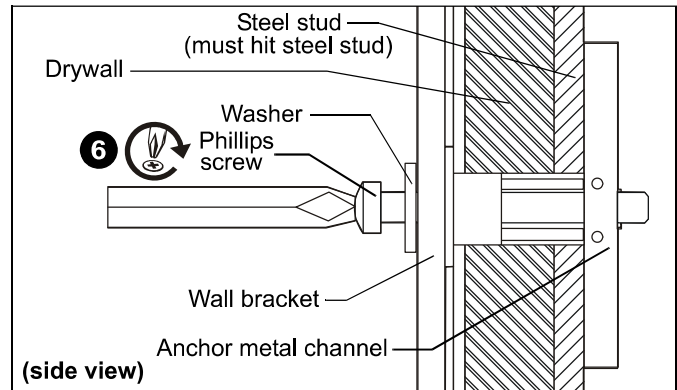

Figure 8
6. Insert 1/4-20 x 1-3/4" Phillips pan head screw through 1/4" washer, corresponding mounting hole in wall bracket and into anchor, and tighten until flush against wall bracket. **DO NOT** over tighten! (See Figure 8)